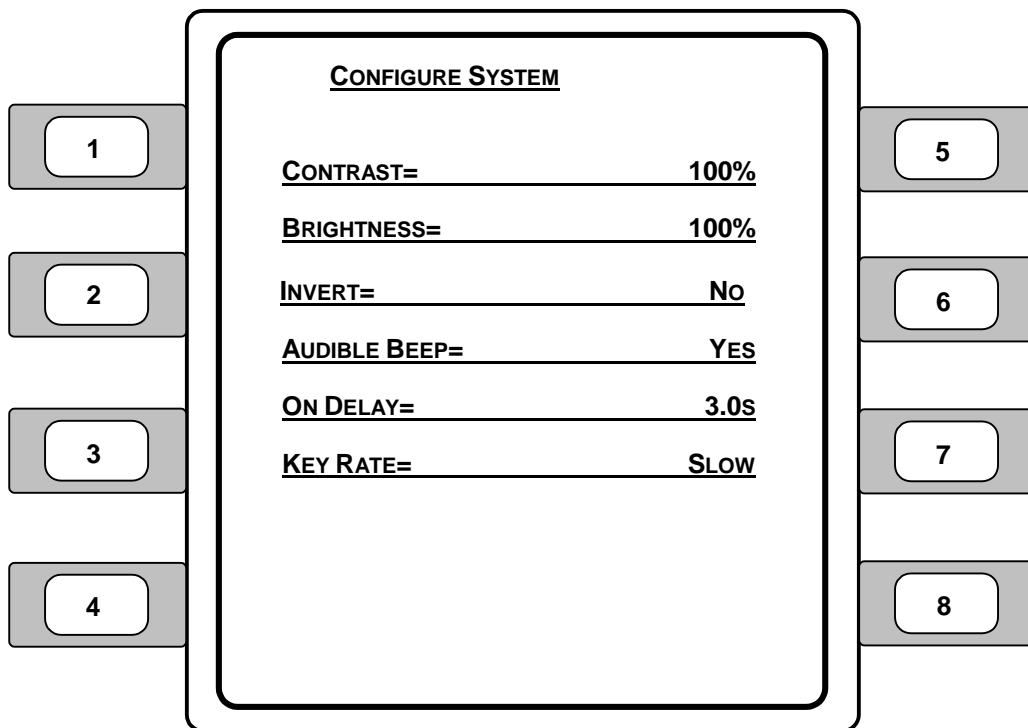
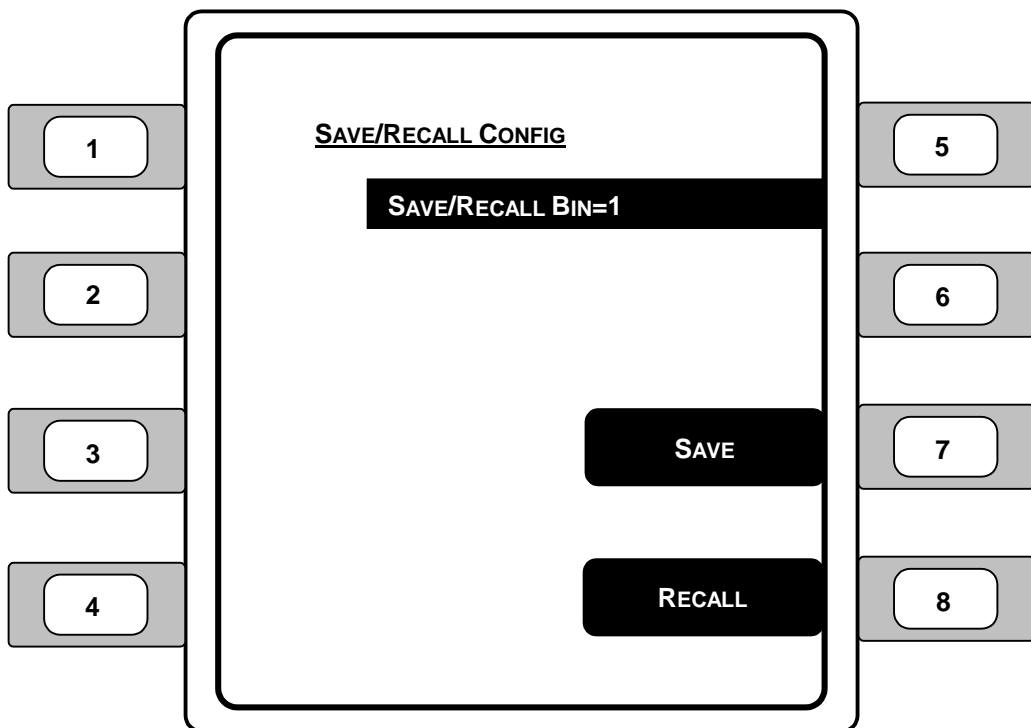

Figure 24 – Configure System Screen
Figure 25 – Configure Save/Recall Screen
2. **CONFIG** – Pressing the adjacent soft key allows the user to access the Configure menu for the instrument. System and Save/Recall are available in the Configure menu. See **Figure 24** and **Figure 25** for details.
The Configure System Screen is shown in **Figure 24**. The Configure System Screen controls basic operation of the Model 8800. Press the Menu key on the front panel to return to the Master display screen.